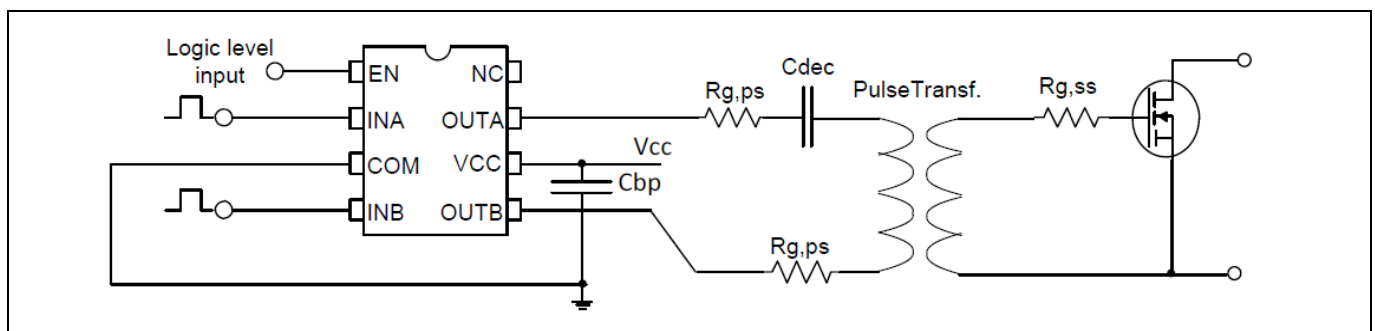

Figure 5 Bridge tied gate driver configuration
This is a popular configuration that allows driving high side fets using a low side gate driver, the Figure 5 shows the typical schematic for a single fet drive:
- $V \cdot \mu s$ ratings: this factor must be respected, in bipolar drive application (like the one shown in Figure 5) a maximum of up to twice that parameter is still acceptable for most manufacturers, this factor then must be chosen accordingly to the following formula: